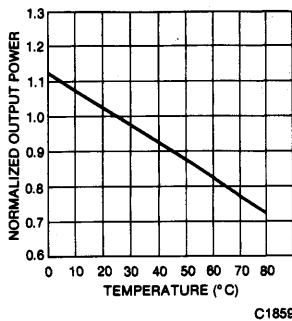

Fig. 2. Normalized Output Power vs. Temperature (Note 3)
3. The curves in fig. 2 are normalized to the power output at 25°C to indicate the relative efficiency over the operating temperature range.